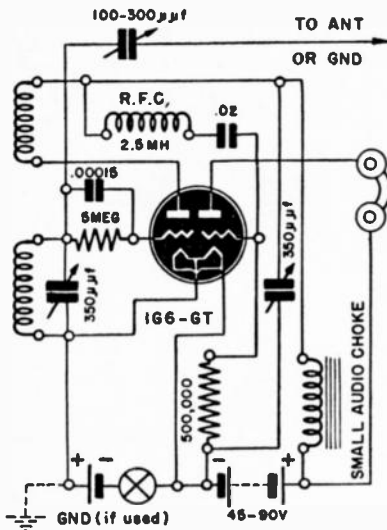

Fig. 104
A. A circuit of the type you require can be made with the 1G6-GT tube shown in Fig. 104. An ordinary 4-prong plug-in coil can be used, or you can wind one experimentally, on a smaller form, if you want a more compact set. Because the set is to be used with low voltage, a small audio choke is used in the detector plate. If more than 40 v is used it may be found better to tap the detector plate off at 45 and use the higher voltage on the audio tube only. Using an aerial and adding a ground will improve the sensitivity of your set, as will connecting the aerial post to any large metal object, such as a bedspring or piece of metal furniture.